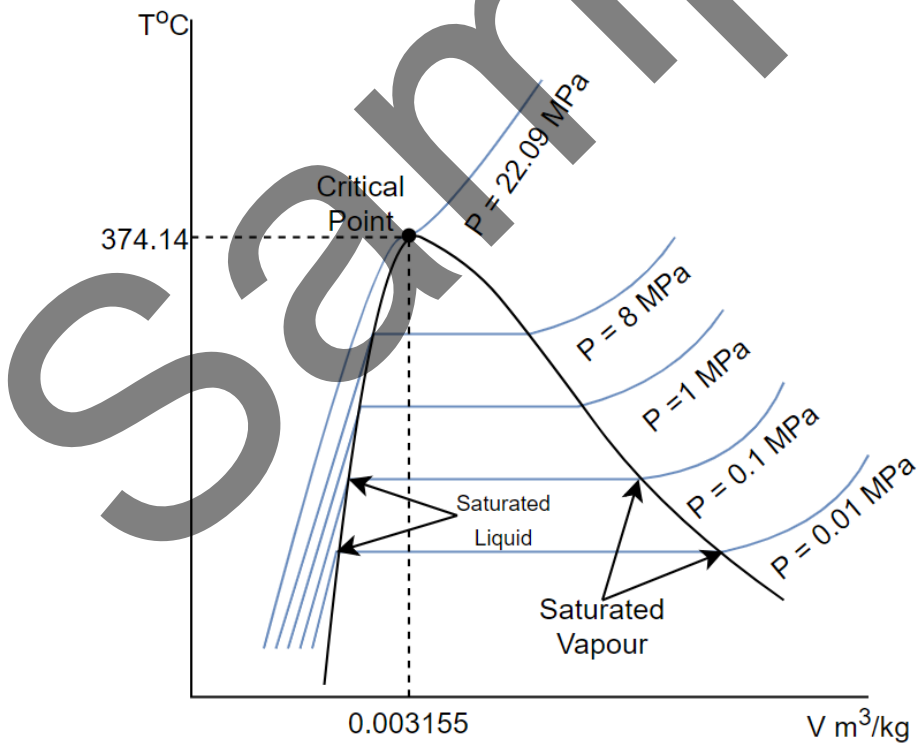
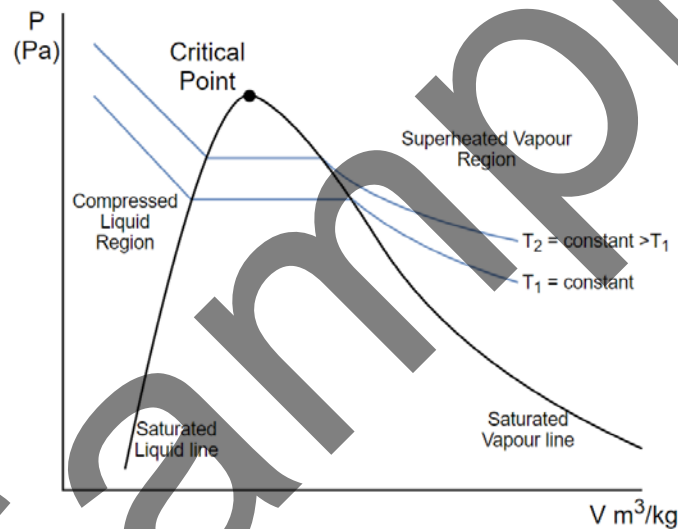

Figure 1.18:  $T - v$  graph of constant pressure heating of water across a range of pressures
Figure 1.19:  $P - V$  diagram showing the saturation line of water
**What if this experiment was conducted across a range of pressures?** It would be possible to connect all the saturated liquid points together, and also connect all the saturated vapour points together, and the result would be Fig.1.18.
The pattern shown in Fig.1.18 can also translate to a  $P - V$  diagram, and  $T - S$ , shown in Fig.1.19 and 1.20, respectively. Generally, the region to the left of the saturated liquid line and below the critical point is the “compressed liquid” or “sub-cooled liquid” region. The region to the right of the saturated vapour line and below the critical point is the “superheated vapour region”. Anything above the critical point is considered a gas. The region between the saturated liquid line and saturated vapour line has a number of names: wet region; saturation region; two-phase region; liquid-vapour mixture region.